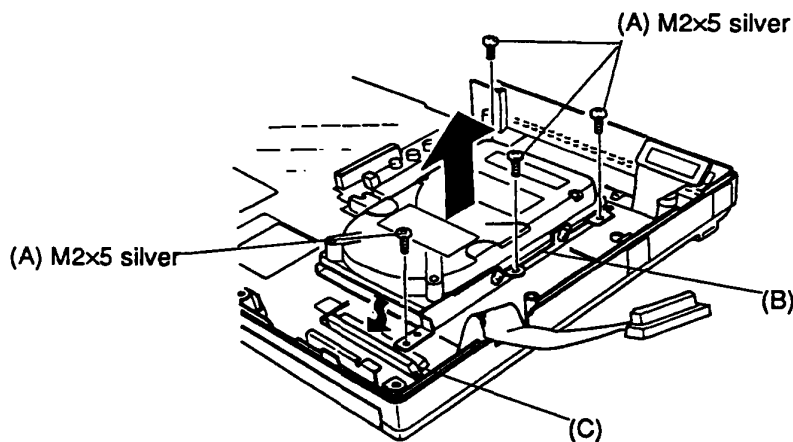

Figure 4-23 Removing the hard disk drive
3. Remove the four (M2x5 silver) screws (A) securing the HDD bracket (B) to the bottom cover (Figure 4-23).
4. Carefully lift the HDD and disconnect the HDD cable (C) from the HDD (Figure 4-23).
3. Connect the HDD cable to the HDD. Then place the HDD and its bracket in the T4400SX (Figure 4-23).